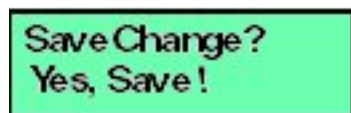

Figure 3.8. LCD Panel (Save Change)
6. Use the arrow keys as described in step 2 to enter the IP address for the DNS server, then press **ENTER**. The following message displays (Figure 3-8):